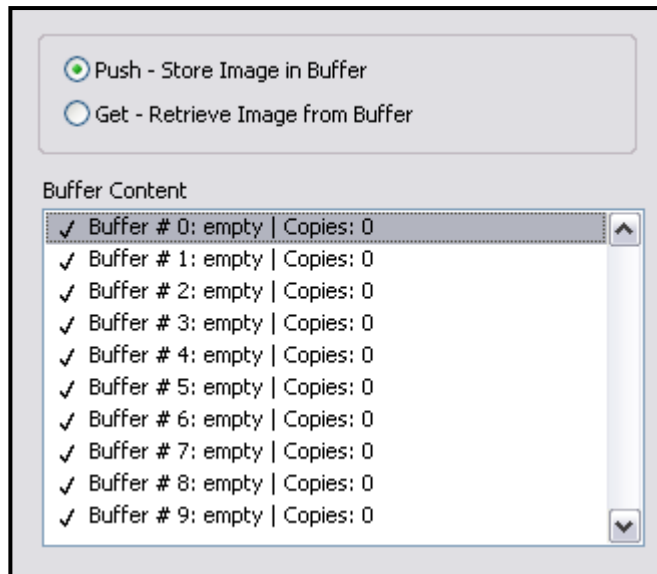

Figure 22. Image Buffer.
3. Image buffer offers 10 buffering slots numbered from 0 to 9. Choose the buffer slot to be used [Figure 22].